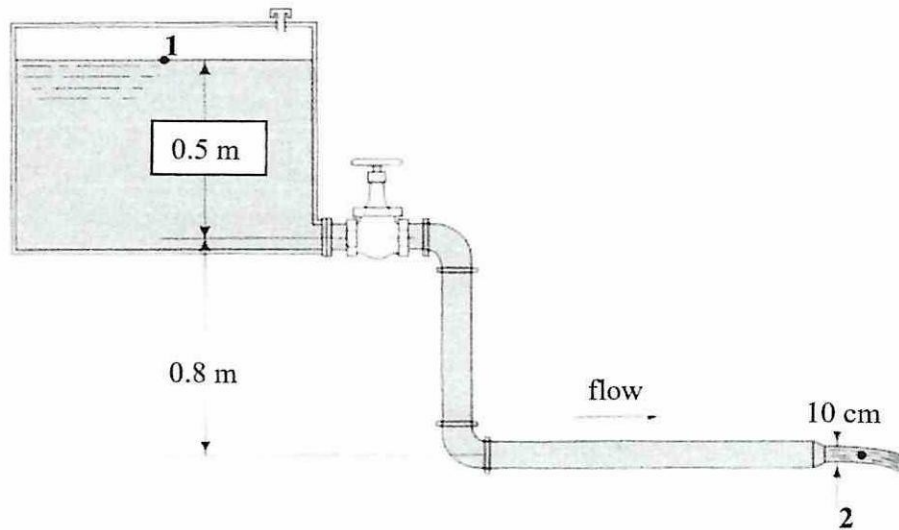

Figure Q3.3
- (f) The system shown in **Figure Q3.3** contain major and minor losses due to friction, valves and pipe bends. Consider the water moving in the system is $0.002 \text{ m}^3/\text{s}$, estimate the total head loss in the system from position 1 to position 2. (6 marks)